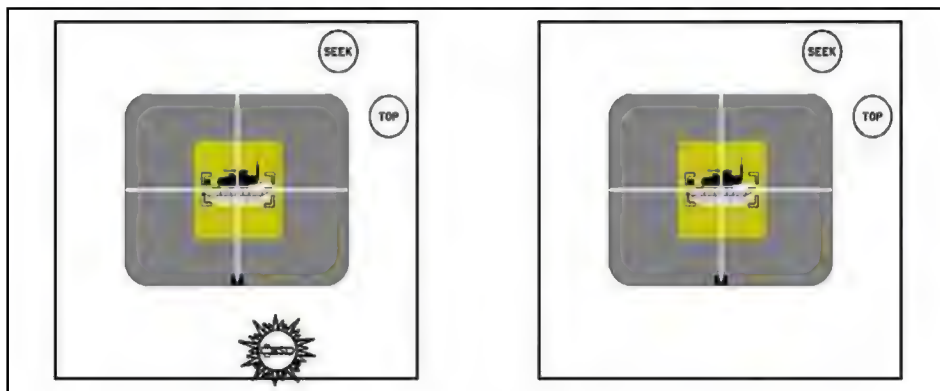

Figure D-9. Misfire—with and without warning indicators.
b. **Possible Reasons.** A misfire occurs when the gunner locks onto a target, squeezes the trigger and the missile does not launch. One of two things will happen with the status indicator: no malfunction indicators or a red MSL flashes (Figure D-9). In either case the seeker FOV remains on the CLU display and the green SEEK and TOP indicators remain lit.